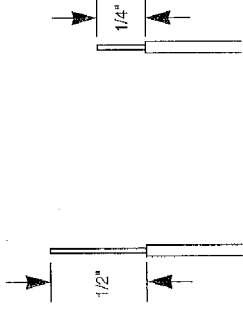

Fig. 5
- Step 2B-4 Remove 1/4" insulation from new Receiver ends of Wire (Fig. 5).**
- Step 2B-5 Remove 1/2" insulation from Power Head and Transformer ends of Wire (Fig. 5).**